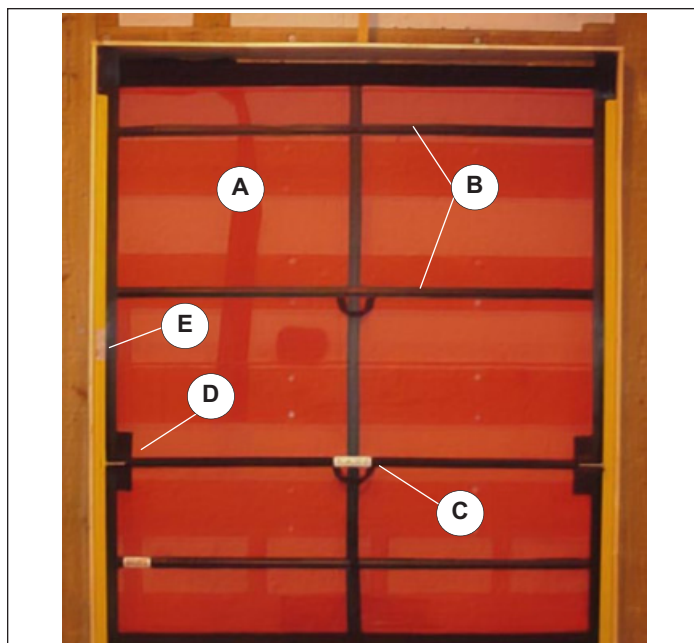

Figure 9.2
8. In the case of multiple doors being installed, it is imperative to install the proper components with the matching door unit. The serial # for your door is on a label located on the side of the lower track, Figure 9.2.